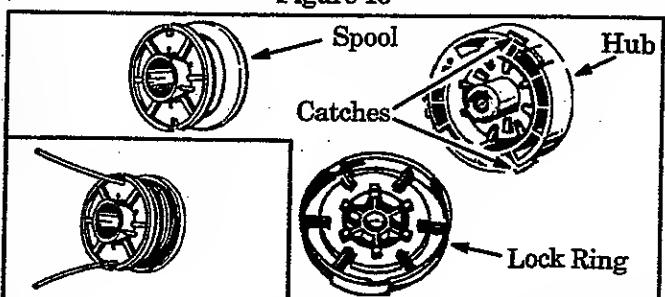
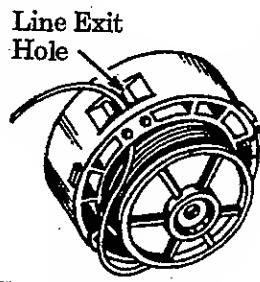
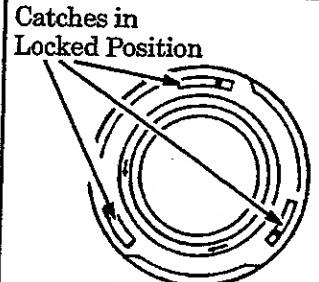

Figure 16
Figure 17
Figure 18
- Remove lock ring and spool. Figure 16 .
- Install new spool by routing one of the two lines through each line exit hole. Figure 17 . Place spool in hub. Make sure trimmer line is not caught between rim of spool and hub.
- g. Check to make sure all three catches (Figure 16) and the lock tab (Figure 17) are properly fastened. Figure 18. Then test the Lock ring by trying to turn it counterclockwise.